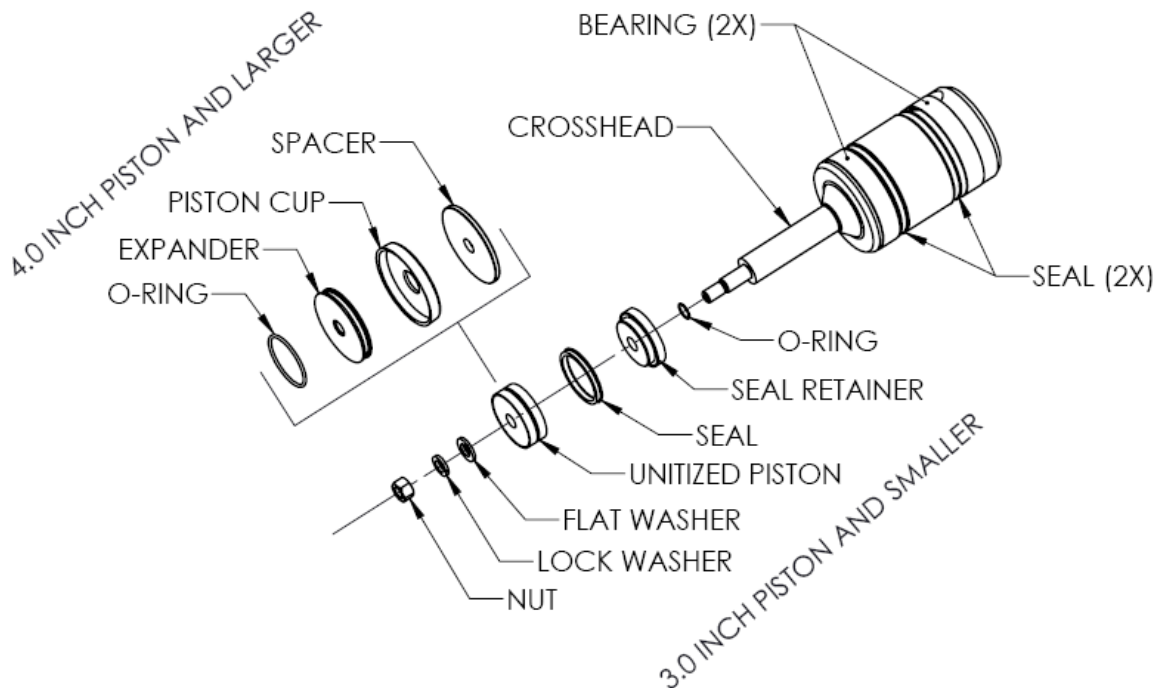

Figure 21
- 1.6 Assure all components slide back onto the threaded end of the cross head until they bottom out (refer to Figure 21).
- 1.5 Assure all components slide back onto the threaded end of the cross head until they bottom out (refer to Figure 21).